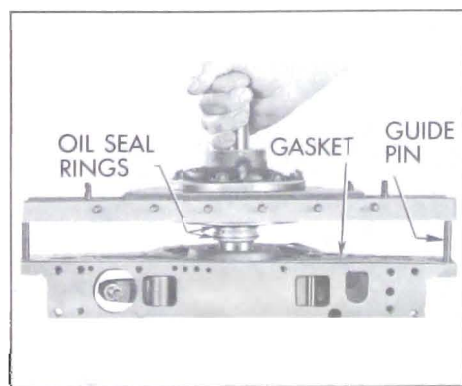

Figure 5-118—Installing Reaction Shaft Flange and Gasket
transmission case. See Figure 5-118.
4. Make certain that oil seal rings are on flange hub, then install flange assembly on case using care to avoid damaging oil seal rings. See Figure 5-118.